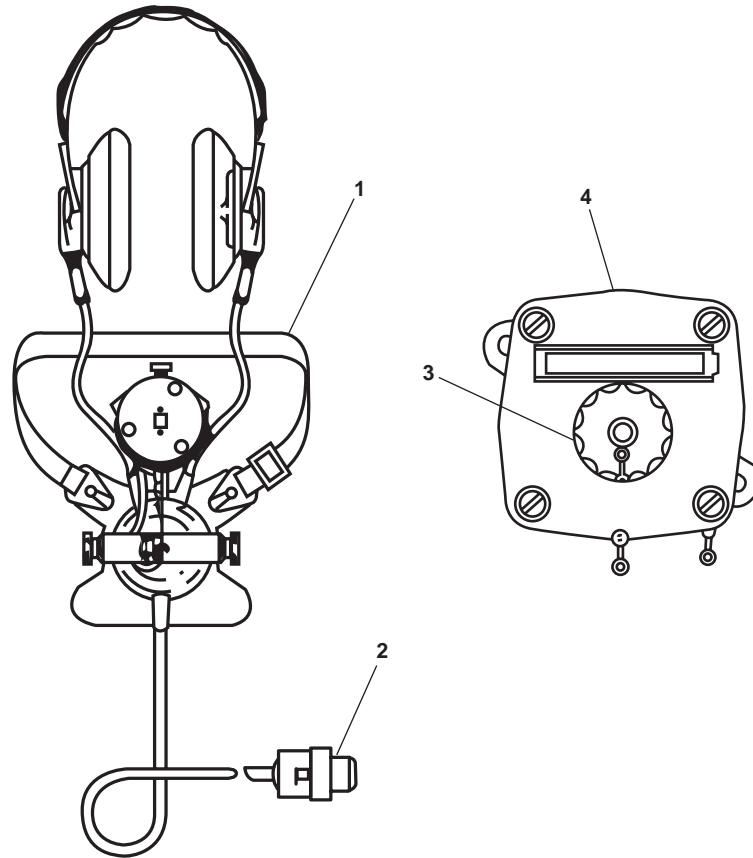

Figure 2. Sound Powered Telephone – Headset-Chestset (Typical)
1. Remove the headset-chestset (figure 2, item 1) by disconnecting the plug (figure 2, item 2) from the receptacle (figure 2, item 3) on the jack box (figure 2, item 4).
2. Check the receptacle (figure 2, item 3) for moisture. If moisture is present, allow it to air dry.
1. Connect the new headset-chestset assembly (figure 2, item 1) to the jack box (figure 2, item 4) by pushing the plug (figure 2, item 2) into the receptacle (figure 2, item 3).